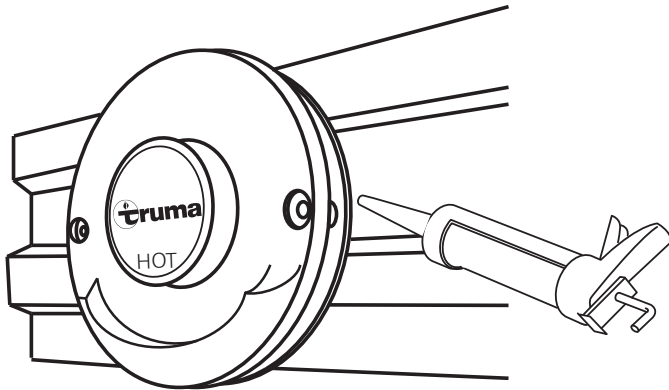

Fig. 13
- If the surface is not smooth (Fig. 13), coat it with a plastic sealant (e.g. sealing based on butyl) for vehicle bodies. Do not use silicone!